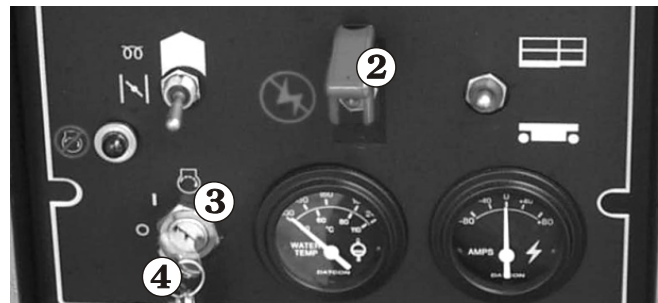

Figure 9.8
2. At the ground control box set the EMERGENCY STOP switch ② to off, turn the MAIN POWER switch ③ off and remove the key ④ (see Figure 9.8).